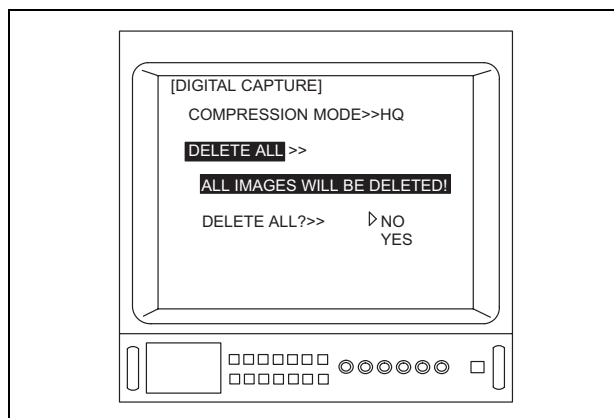

Figure 5.105
7. Depress the menu switch "↵" or the "Enter" key on the keyboard to display the next menu. The menu shown in Figure 5.105 is displayed on the video monitor.